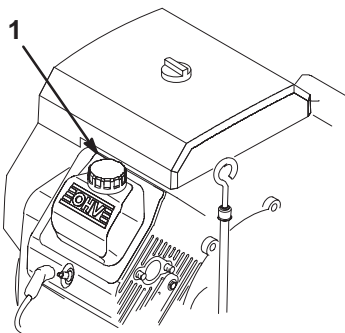

Figure 28
9. Slowly pour approximately 80% of the specified amount of oil into the oil filler tube (Fig. 28).